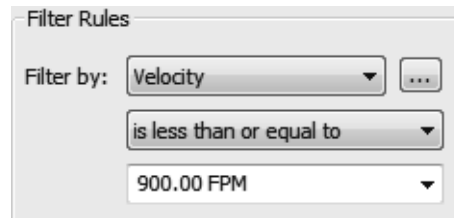

Figure 1–67
- In the *Filter Rules* area, set *Filter by* to **Velocity, is less than or equal to**, and **900 FPM**, as shown in Figure 1–67.